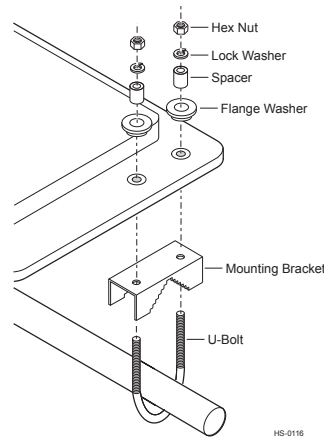

Figure 2 Mounting Hardware
Note: The holes in the mounting bracket are not centered. Place the bracket so the narrow side is oriented toward the edge of the radome. Refer to Figure 2.
2. Place the small side of each flange washer into each of the four (4) mounting hole on the radome. The large flat surface of the flange washer faces out. The U-bolt fits through the center of the flange washer. Place one (1) spacer, one (1) lock washer, and one (1) hex nut over each end of the U-bolt, but do not completely tighten the nuts. Repeat for the other U-bolt. Figure 2 shows the correct placement order of the mounting hardware.